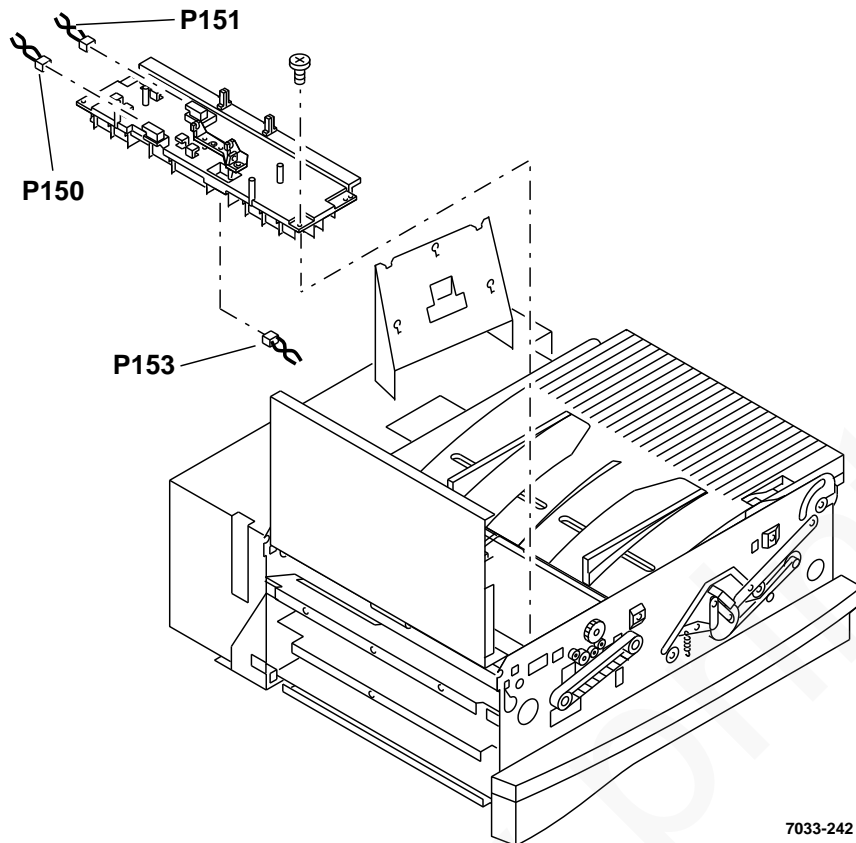

Figure 14. Upper paper chute assembly removal
- Remove four screws from paper chute assembly (Figure 14).